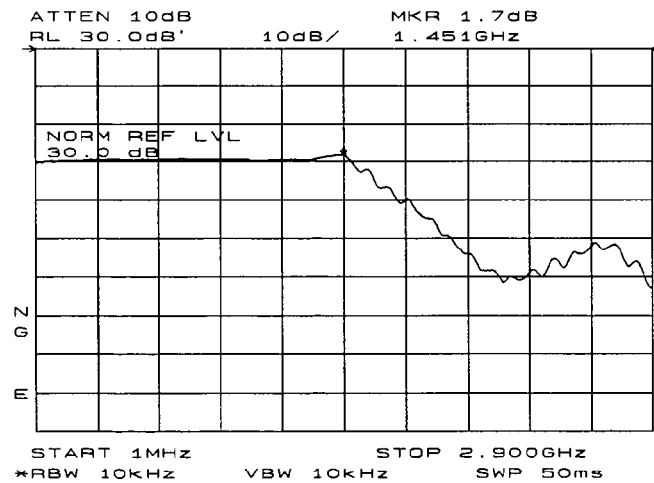

Figure 3-28. **NORM REF LVL is a trace function.**
By increasing **NORM REF LVL** to 30 dB, as shown in Figure 3-28, the trace moves down on the screen. Note the following three instrument parameters: (1) the input attenuator value still remains at 10 dB, (2) the marker-amplitude readout displays 13.2 dB, and (3) the ERR 903 A>DLMT error message is still displayed, even though the signal appears to be fully within the graticule.
Hence, Figure 3-28 shows that **NORM REF LVL** is a trace function that can position the active trace without changing analyzer settings. The **ERR 903 A>DLMT** error message is an indicator that the actual measured trace may fall outside of the analyzer's measurement range with the current settings. By adjusting **RANGE LVL**, thereby changing the input attenuator and IF gain, compression-free measurements are assured.